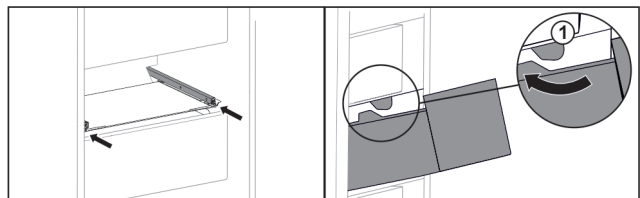

Fig. 160
- ▶ Guide drawer around the stoppers Fig. 160 (1).